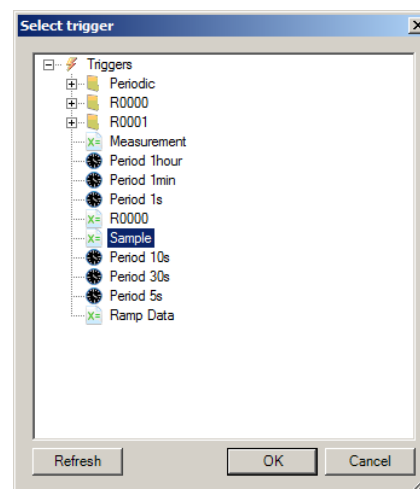

Figure 6 Select the Sample Trigger
4. Click on the button for the Trigger selection to open the trigger browser as shown in Figure 6.